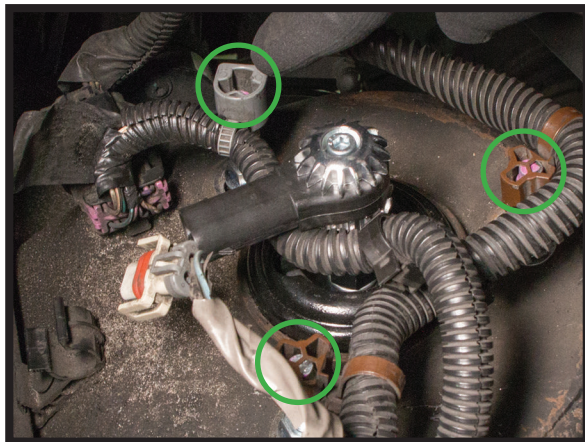

FIGURE 40-5
4. ORIENT THE DAMPENING COILS CONNECTOR TOWARDS THE ENGINE AND PLACE HARNESS RETENTION CLIPS BACK INTO PLACE, THEN CONNECT THE VEHICLE'S ELECTRICAL CONNECTOR TO THE COIL SENSOR. (FIGURES 40-5, 40-6)